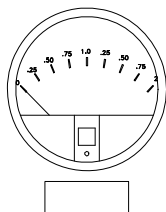

Figure 5 - Differential Pressure Gauges
Two (2) differential pressure gauges are provided to indicate the pressure drops across the rotor (see Figure 5). Rotor pressure drop (static pressure) correlates directly to airflow. In order to maintain optimum performance, process and reactivation airflows should be set to the recommended rotor pressure drops. Refer to the Technical Data Sheet included with the unit to determine the appropriate values for the rotor pressure drops (inches w.c.).